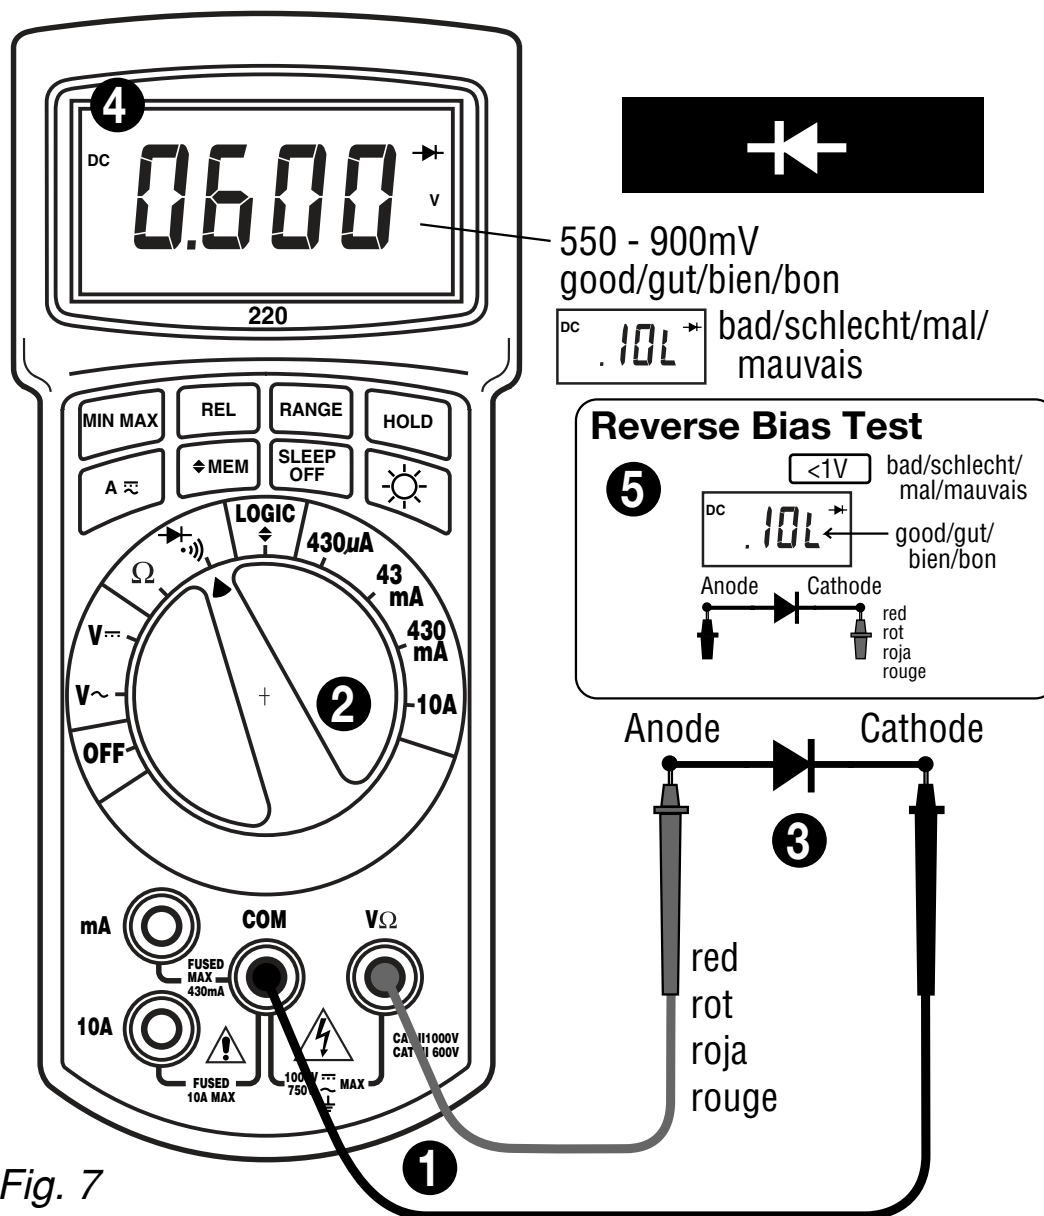

Fig. 7
DIODE AND CONTINUITY TEST (See Fig. 7)
test leads as shown in figure 7. ② Set the Function/range switch to $\rightarrow \vdash \vdash$. ③ Apply probe tip of red lead to the anode and of black lead to the cathode of the diode. ④ The meter's display indicates the forward voltage drop (approx. 0.6V for silicon diode or 0.4V for germanium diode). An open diode is indicated by "I OL". ⑤ Reverse test lead connections to the diode to perform a reverse bias test. "I OL" indicates a good diode. **Notes:** "I OL" for both reverse and forward bias tests indicates an open diode. A low voltage reading for both bias tests indicates a shorted diode. If the diode is shunted by a resistor of 1000 ohms or less, it must be removed from the circuit before taking the measurement. Bipolar transistor junctions may be tested in the same manner described above as emitter-base and base-collector junctions are diode junctions.
D • Dioden- und Transistortest (siehe Fig. 7)
E • Comprobación de diodos y transistores (vea Fig. 7)
F • Test de Diodes et de Transistors (voir Fig. 7)